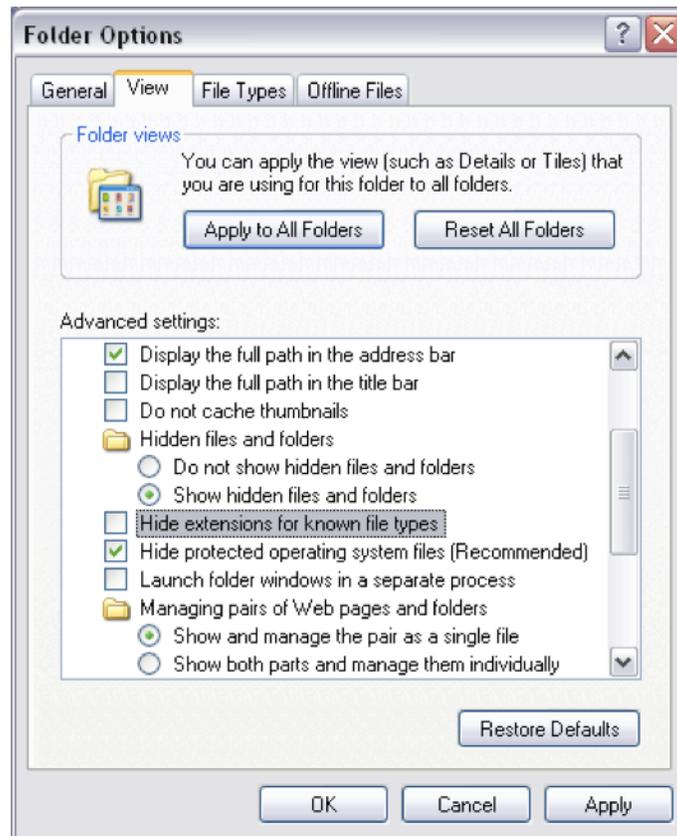

Figure 4.38 Screenshot of the View section within the Folder Options configuration for Windows.
4.4.3.2 Select the “View” tab within the Folder Options window and make sure that the field labeled as “Hide extensions for known file types” is unchecked as shown in Figure 4.38. Click on the check box to uncheck this field if is not already unchecked. Select “Apply” and then “OK” to apply the settings and exit the Folder Options window, respectively. These settings will remain even after the machine is shutdown so this only needs to be done once.